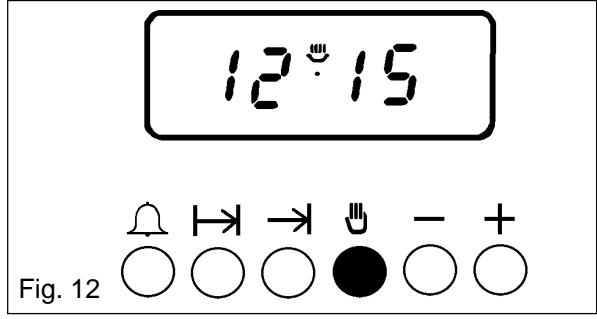

Fig. 12
- i) To cancel an automatic programme, press ( ) button. The AUTO display will go out and the cookpot symbol will light, as Fig.12.